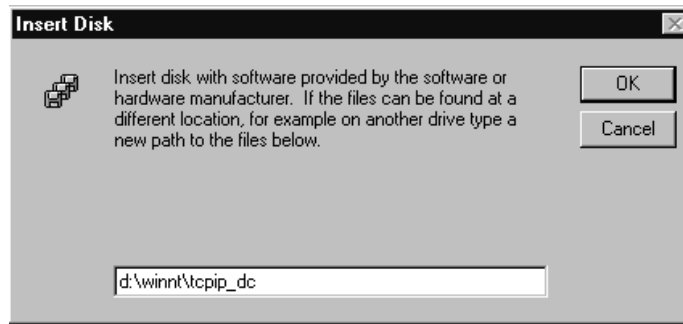

Figure 6-14. Insert Disk
4. Click the **H**ave Disk button. The Insert Disk dialog box will display (Figure 6-14).